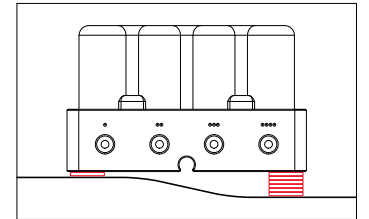

Fig. 6: Compensation mounting surface
3. Secure the valve block using the provided mounting kit. If the mounting surface is not level, add washers or a spacer to even out the surface (Fig. 6). In this case, additional mounting material may need to be purchased.